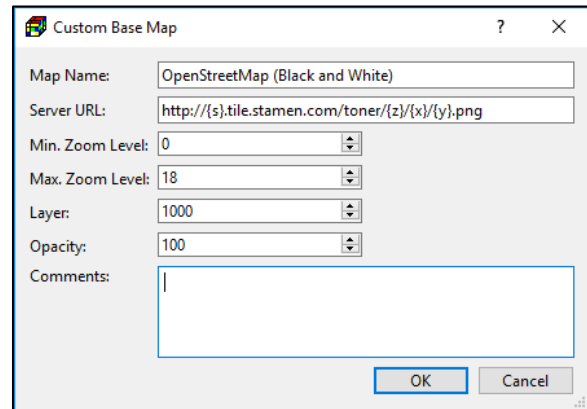

Figure 8. The Custom Base Map dialog box
2. **Add:** Click this button to open the Custom Base Map dialog box (Figure 8), which allows you to add a tiled-map service.